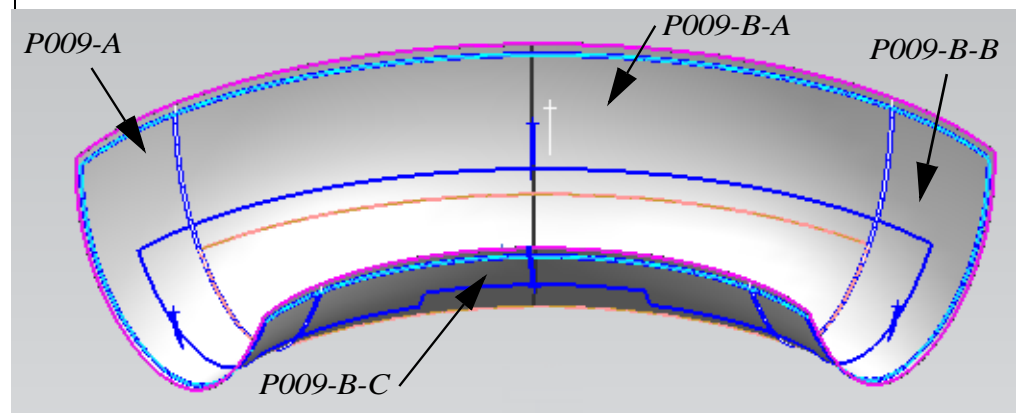

Figure 13–23
- With the four P009 plies highlighted, right-click, and select **Modify** as shown in Figure 13–24.